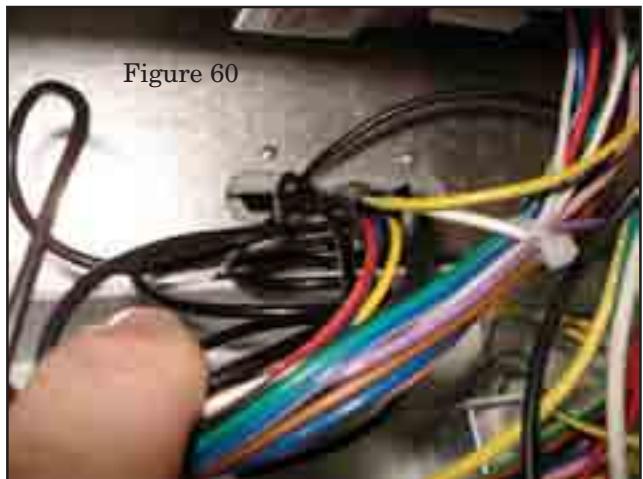

Figure 60
7. Carefully unroll the capillary tube of the new manual reset water temperature limit and feed the sensing bulb through the strain relief clamp. See Figure 60.